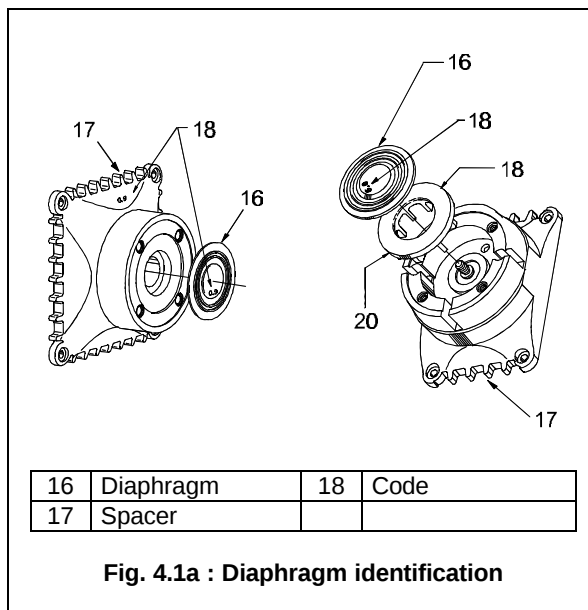

Fig. 4.1a : Diaphragm identification
4. Dismantle the liquid end. Unscrew the diaphragm. Clean the diaphragm recess and the disk. Check the size of replacement diaphragm, the code (0,5 - 0,9 - 1,8 - 3,0 - 6,0) is indicated on the diaphragm and the disk or spacer (see fig. 4.1a).